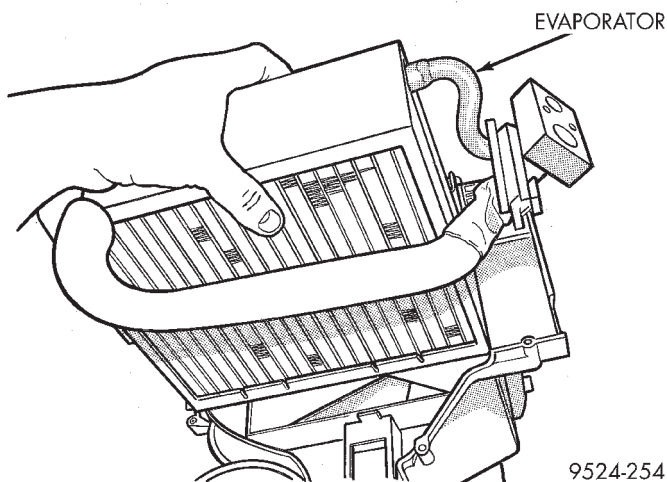

Fig. 91 Remove Evaporator From Housing
- (21) Lift evaporator out of lower housing (Fig. 91).
- (22) Remove styrofoam seal around evaporator.